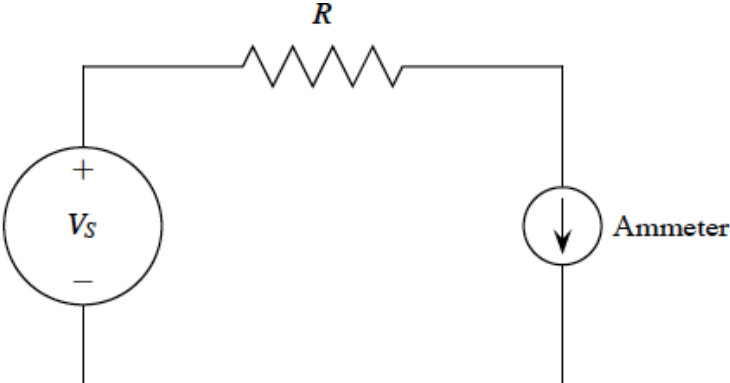

Figure 1.7: Circuit for Section 1.4.1
1. The value of the resistor in Figure 1.7 is unknown. Construct the circuit with a quarter watt resistor and use the laboratory equipment to find this value. Complete Table 1.3 and record the current value measured on the ammeter.